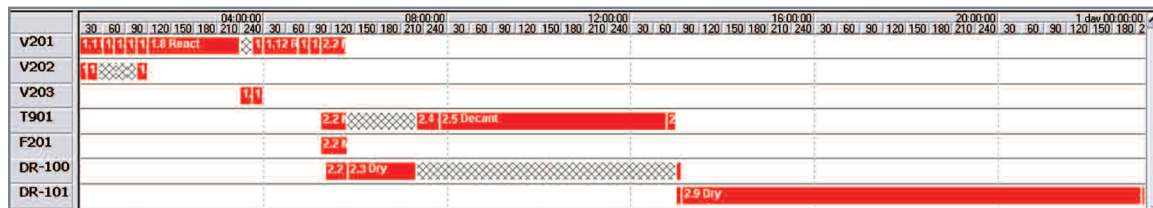

Figure 4: Schedule view (Gantt chart) of a step
- *Figure 4* - A Gantt-chart view of an individual process or a collection of processes running in a given facility to adjust schedule operations